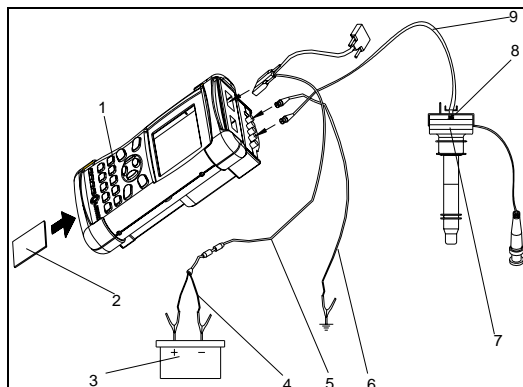

Fig.4-12
**CONNECTION 7:** The high-tension wire of one plug is exposed and that of another plug is located inside the ignition coil. The primary lead is hidden. In this case, only the secondary ignition waveform can be tested. Select secondary trigger mode to get the secondary ignition waveform. To test the high-tension ignition signal waveform hidden in the ignition coil, use the secondary signal slice sensor to get the secondary ignition waveform. The connection is as shown in Fig.4-12.